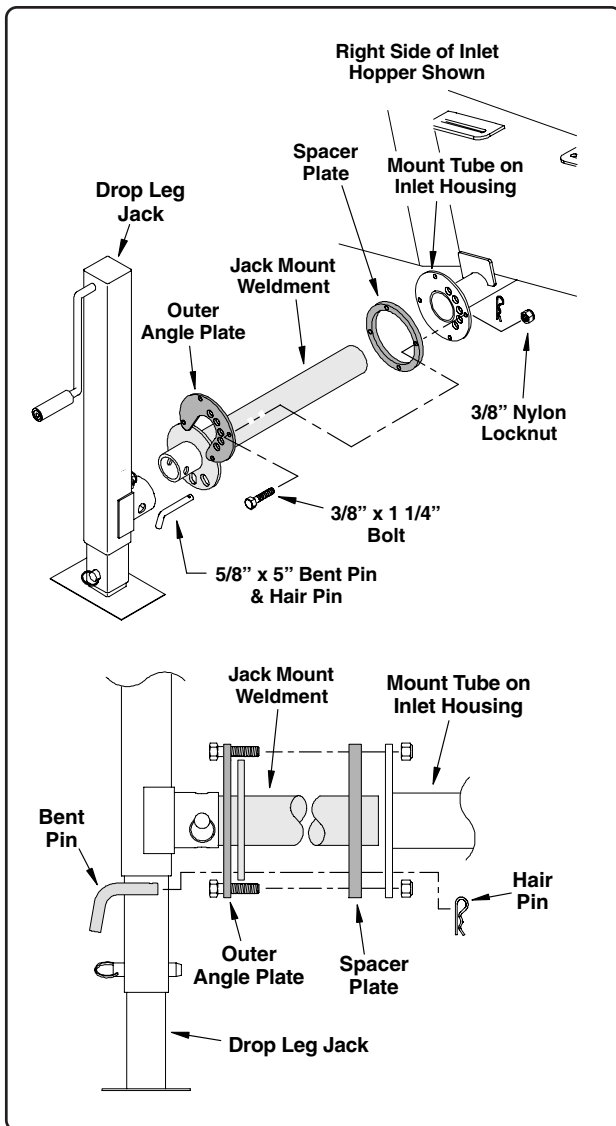

Fig. 28
1. Slide the spacer plate onto the tube of the jack mount weldment (See Fig. 28).
2. Position the outer angle plate over the outside tube of the jack mount weldment, See Fig. 28 (the jack mount weldment flange will be captured between the outer angle plate and spacer plate).
3. Using four (4) 3/8" x 1 1/4" bolts and nylon locknuts, secure the outer angle plate and spacer plate to the mount tube on the inlet housing.